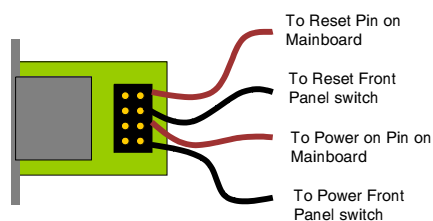

Figure 3.8: Top view of internal reset/power option
Figure 3.8 shows the top view of the reset/power bracket.
3. Disconnect this cable from the main board and connect it to the pin connector on the bracket as shown in Figure 3.8.
4. Take the supplied red/black reset cable and connect the cable with one end to the main boards reset jumper connector (where you just disconnected the cable to the front panel) and with the other end to the bracket connector as shown in Figure 3.8.
6. Disconnect this cable from the main board and connect it to the pin connector on the bracket as shown in Figure 3.8.
7. Take the supplied red/black power cable and connect the cable with one end to the main board's power jumper connector (where you just disconnected the cable to the front panel) and with the other end to the bracket connector as shown in Figure 3.8.